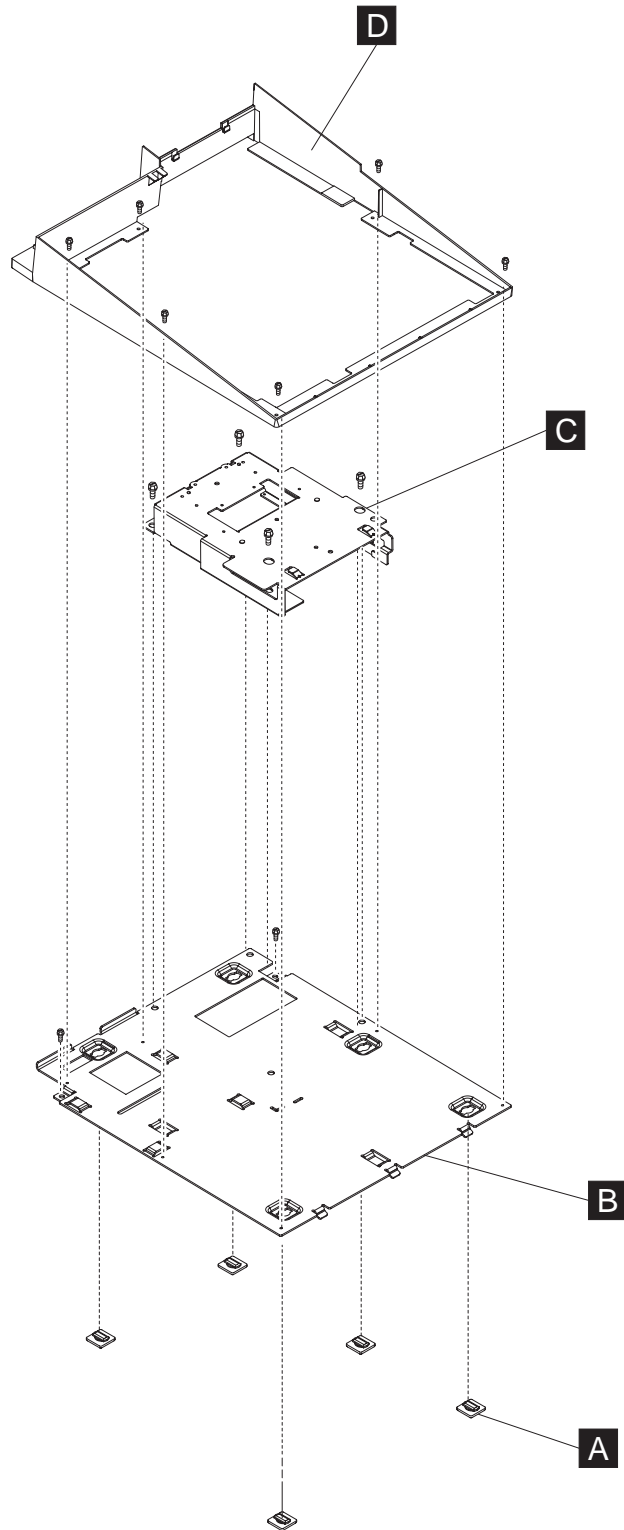

Figure 66. Countertop keyboard-integration tray assembly
2. For a free-standing unit, ensure that the rubber feet **A** are installed on the bottom of the countertop keyboard integration tray (as shown in Figure 66 on page 101).
- a. Remove the fence **E** from the countertop keyboard-integration tray by removing the screws as shown in Figure 66 on page 101.
- c. Remove the rubber feet **A** located on the bottom of the integration tray. See Figure 66 on page 101 for location of feet.